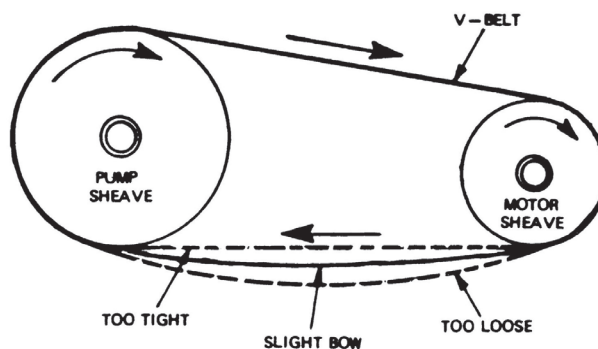

Figure 5-1 – V-Belt Tensioning
2. Start the drive and continue to tension the V-belt(s) until only a slight bow on the slack side of the drive appears while operating under load conditions as shown in **Figure 5-1 on page 9**.
4. Check the V-belt tension as shown in **Figure 5-1 on page 9**.